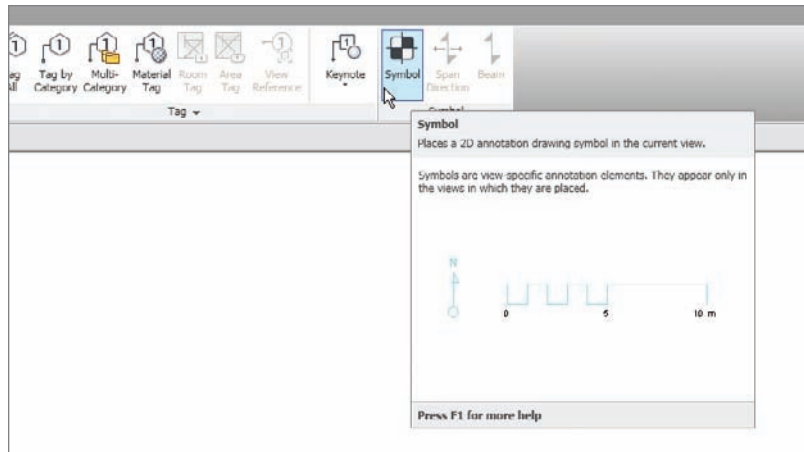

FIGURE 11.46 Clicking the Symbol button on the Annotate tab
5. On the Symbol panel of the Annotate tab, click the Symbol button, as shown in Figure 11.46.